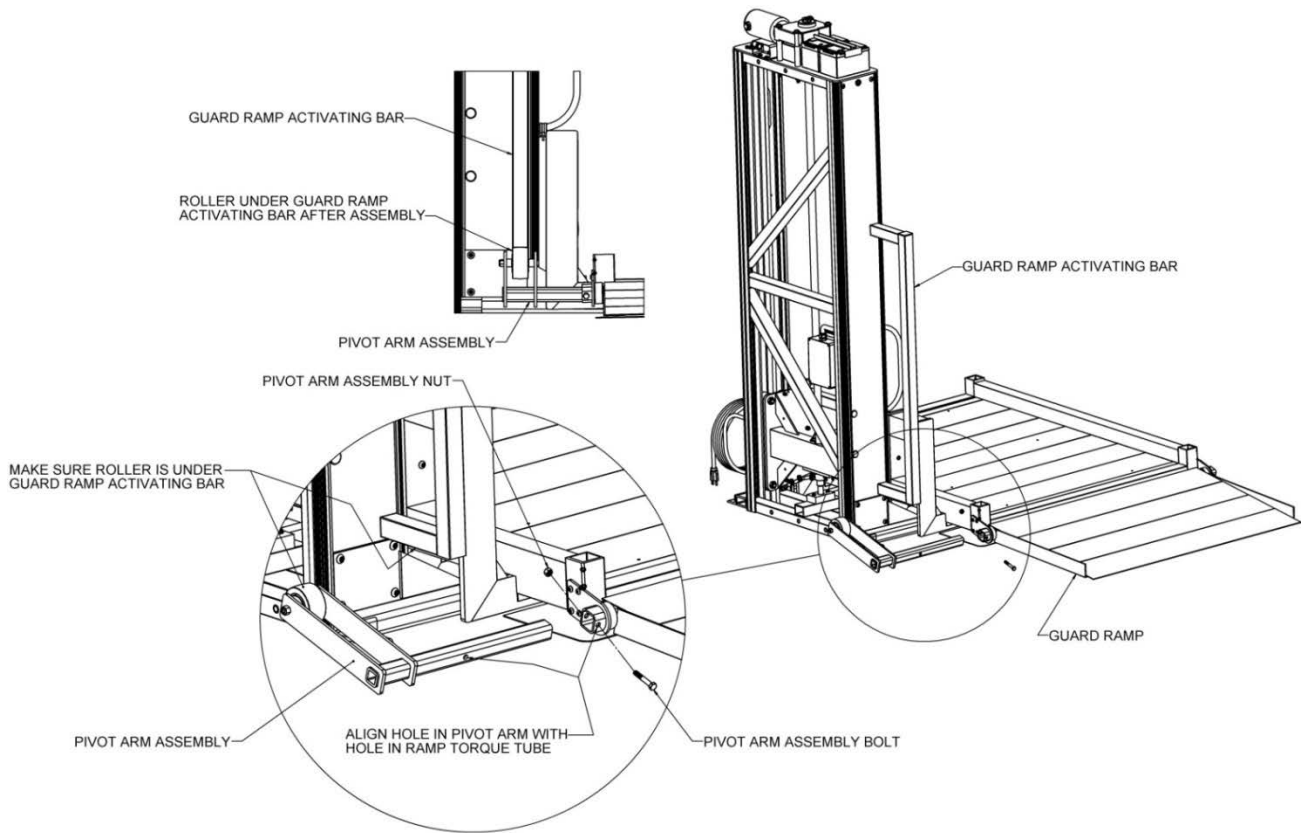

FIG. 4.5
8. Install the pivot arm assembly by first removing the bolt and nut from the pivot arm (FIG. 4.5).